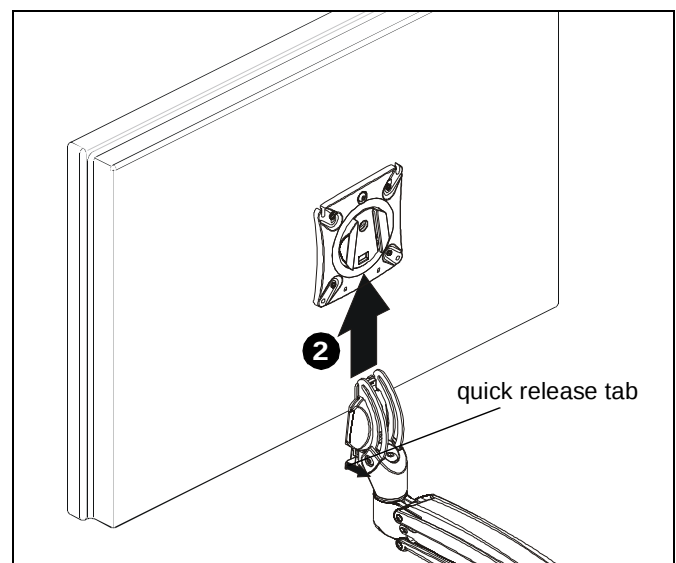

Figure 23
WARNING: Only remove display from mount when the display can be lifted up from the mount! DO NOT remove display unless the display is in the upright position! (See Figure 23)
2. Remove quick release faceplate from mount by pulling quick release lever and sliding faceplate off mount. (See Figure 23)